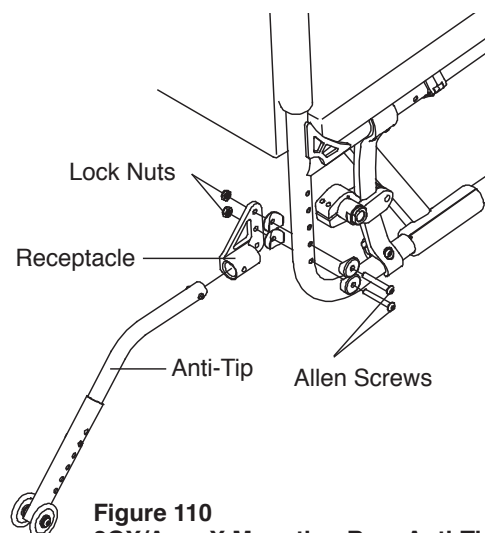

Figure 110
3. Install the anti-tip receptacle as shown in Figure 110.